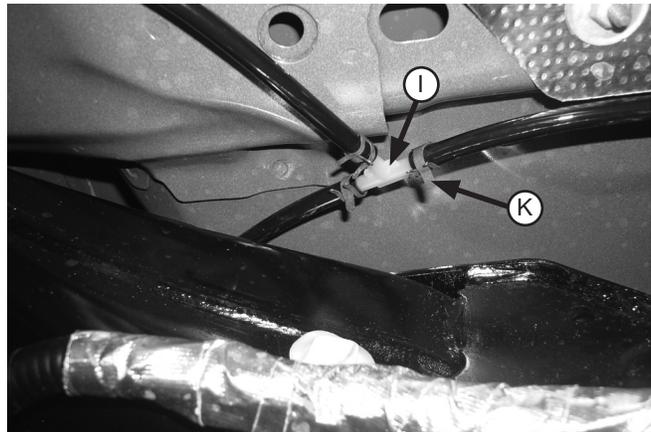

Fig. 7
8. Route the hose to the upper, left side crossmember and install the tee fitting (I) using the air line clamps (K) (Fig. 7).